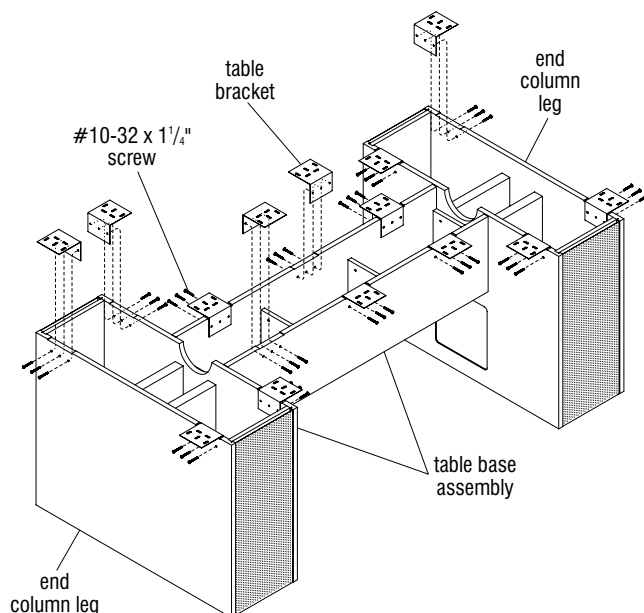

Figure 4
11. Locate all required table brackets and note each bracket cutout at the top of the entire base assembly. Install one table bracket at a time by positioning each bracket onto the cutout with the three-hole flange side of the bracket against the inside of the table base. Then, from outside the base, secure the bracket using three #10-32 x 1 1/4" self-tapping screws. Take care to securely install all available brackets onto all cutouts using the full amount of the required screws (Figure 4).